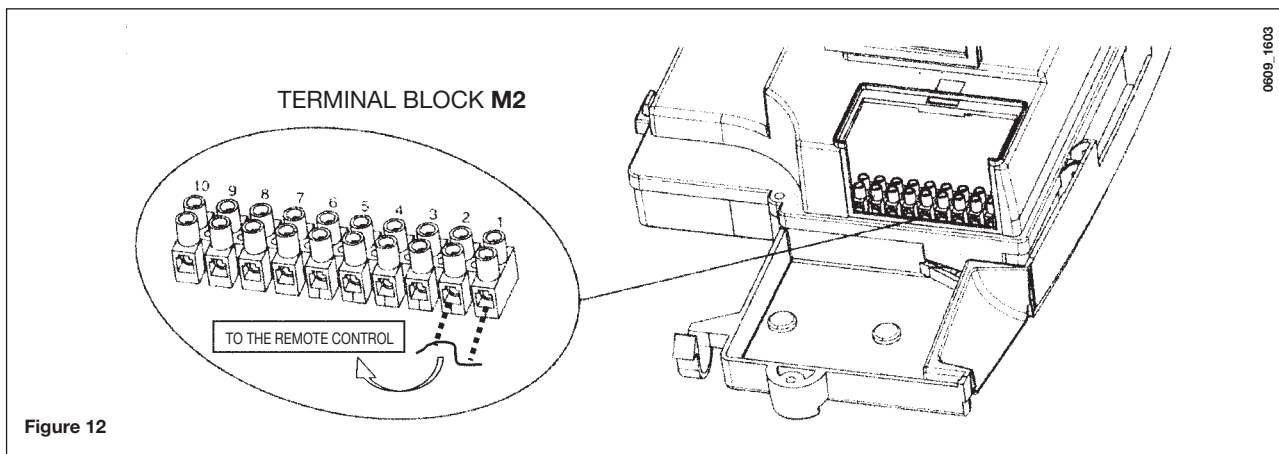

Figure 12
2. access the terminal block **M2** as shown in the figure 12;